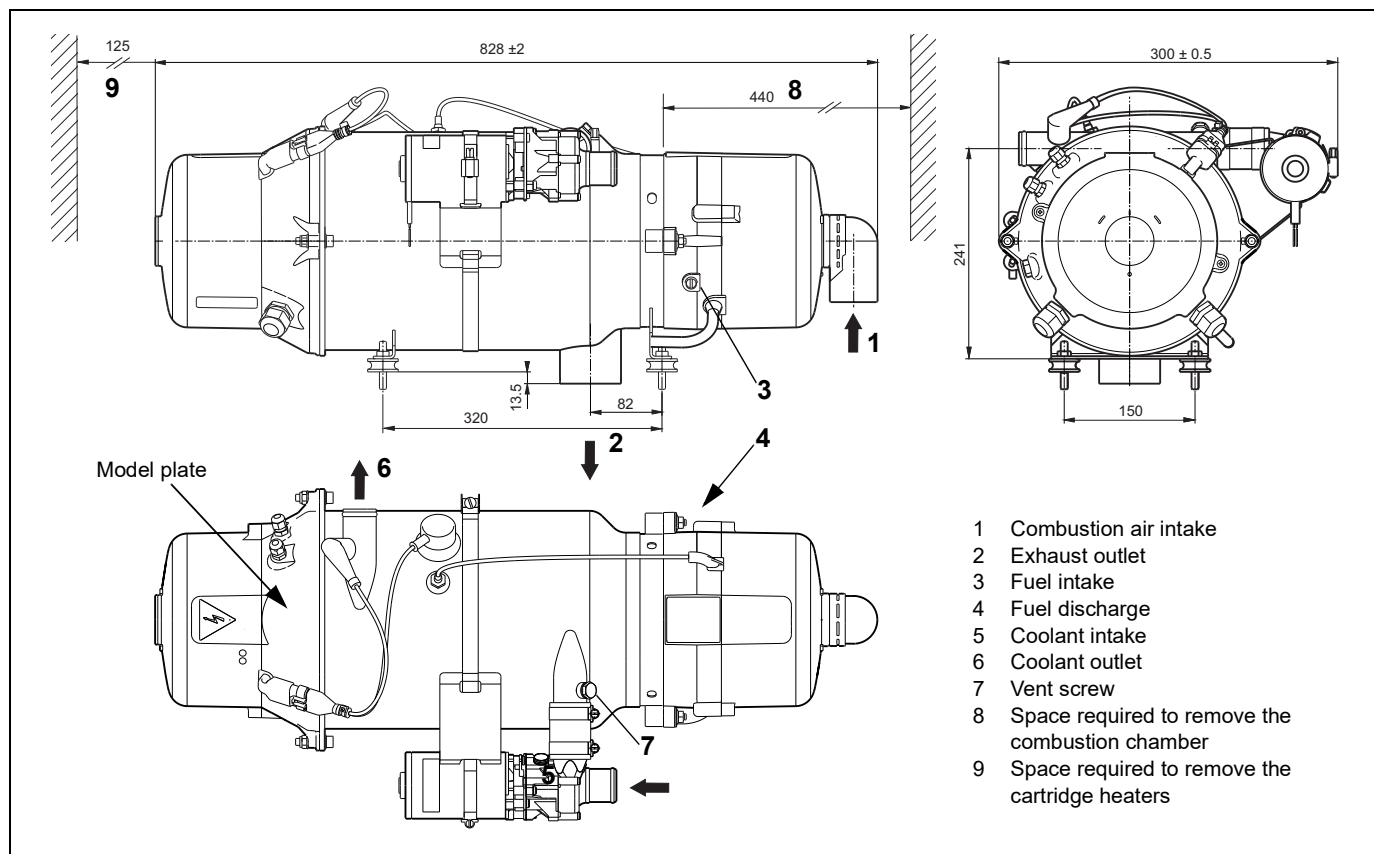

Fig. 2: Thermo H heater dimensions (horizontal installation)
- Consider the space required for servicing accessibility (e.g. removal of the combustion chamber) (see fig. 2).
The heater is to be connected to the vehicle cooling system in accordance with Figures 2 and 5. The system must contain at least 35 litres of coolant. A minimum of 30% of a good quality antifreeze should be maintained in the heating circuit of the heater at all times.
Use the vent screw item 7, Fig. 2, to bleed the system after the system has been filled and the pump has been switched on.